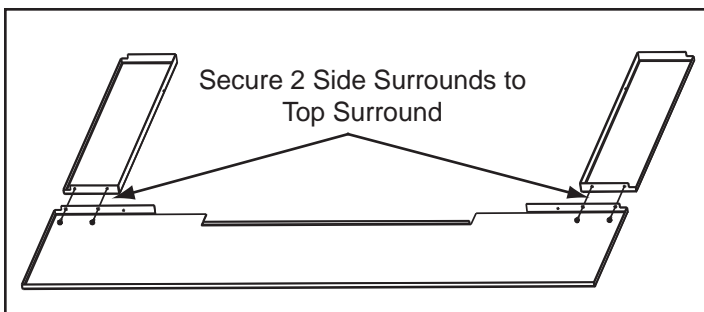

Figure 41.2
2. Using a Phillips head screw driver attach the side surrounds to the top surround using (2) #8 sheet metal screws on each side provided with the kit. **Figure 41.2**.